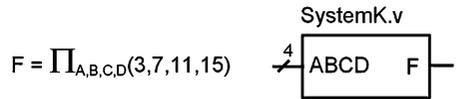

Fig. 5.3
- 5.2.5** Design a Verilog model to implement the behavior described by the 4-input maxterm list in Fig. 5.3. Use procedural assignment and an if-then statement. Declare the module to match the block diagram provided. Use the type wire for the inputs and type reg for the output.
- 5.2.6** Design a Verilog model to implement the behavior described by the 4-input maxterm list in Fig. 5.3. Use procedural assignment and a case statement. Declare the module to match the block diagram provided. Use the type wire for the inputs and type reg for the output.